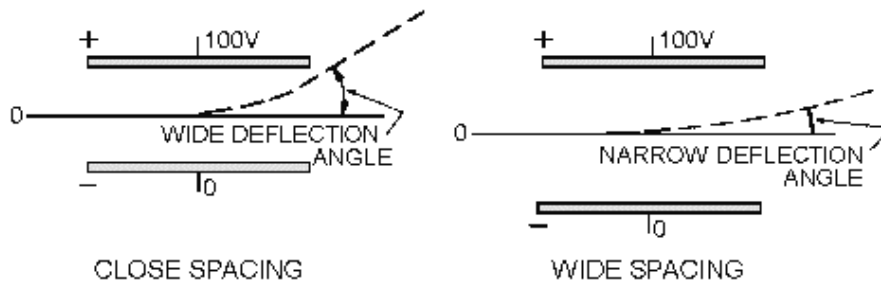

Figure 6-4.—Spacing between plates.
**SPACING BETWEEN PLATES.**—As shown in figure 6-4, the closer together the plates, the more effect the electric force has on the deflection angle of the electron beam.